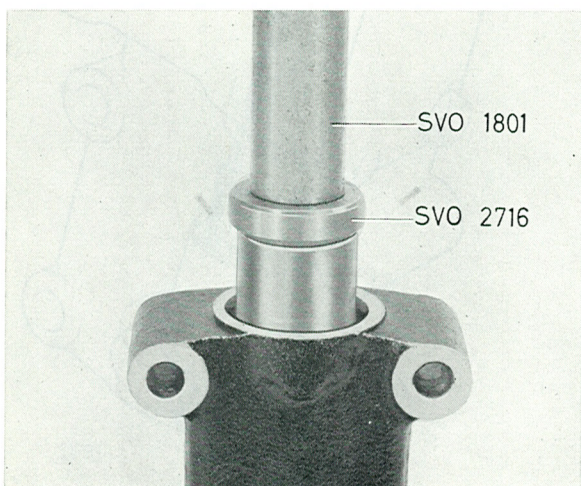

Fig. 6-43. Fitting the pitman arm bush
9. Press in new bushes with tools SVO 2716 + SVO 1801, see Fig. 6-43.